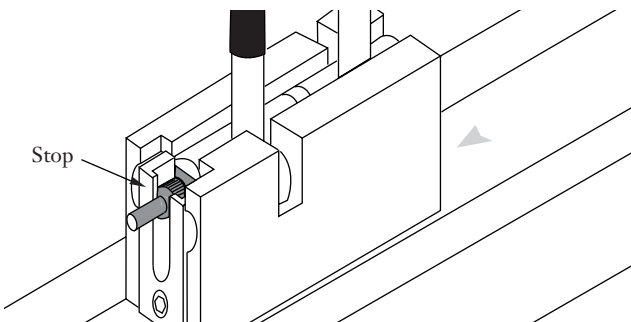

Figure 4
5.3 Slide the CamSplice into the right end of the assembly tool until it butts against the tool's left stop. Approximately $\frac{1}{8}$ -inch (3 mm) of the splice should protrude from the left end of the tool (Figure 4).